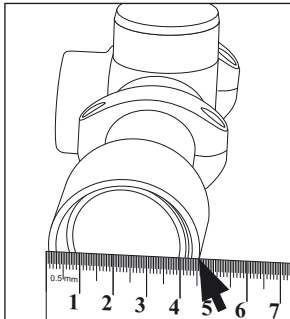

FIGURE B-1.
1. Determine your daytime scope objective tube diameter (external - not diameter of the glass lens) with a metric ruler (with a trammel for more accurate results) as shown in Figure B-1.